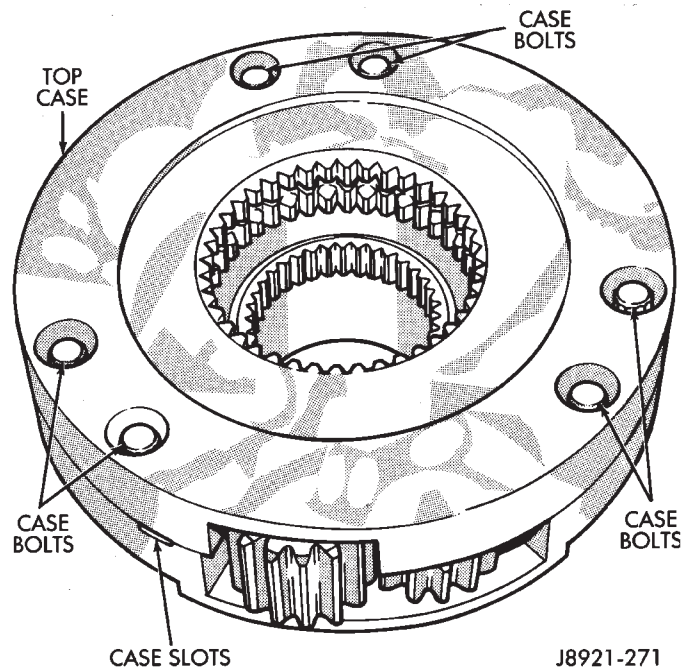

Fig. 33 Separating Differential Case Halves
(46) Remove oil seals from following components:
(47) Mark differential case halves for reference.
(48) Remove differential case bolts and separate top case from bottom case. Use slots in case halves to pry them apart (Fig. 33).